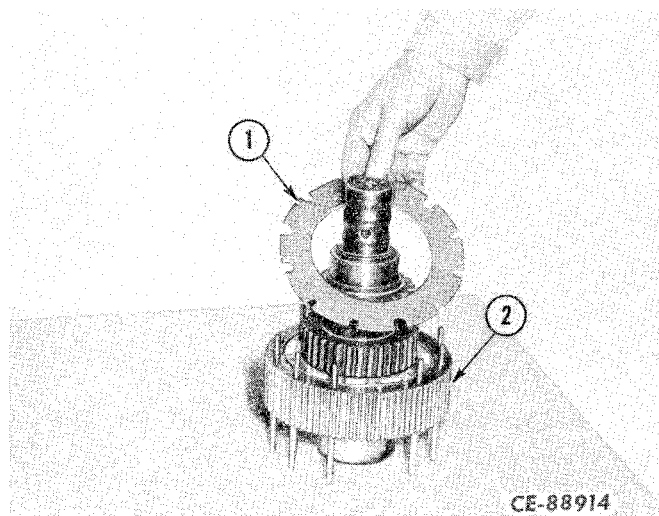

Figure 4-116
Remove the spring retaining plate (1, Fig. 4-116) from the cylinder (2).